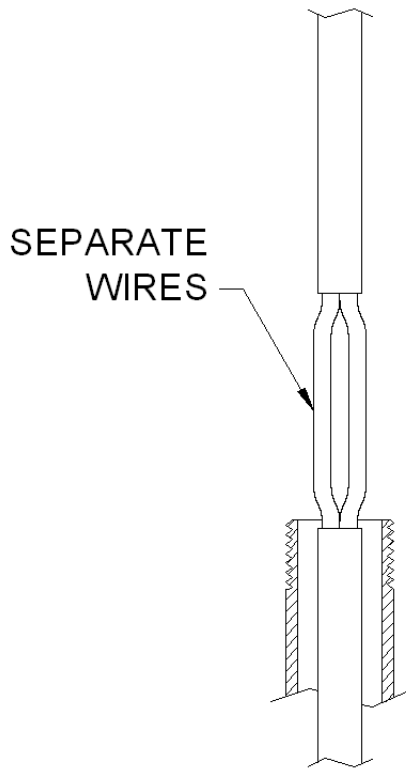

Figure 7
4. Separate the high voltage wires as shown in Figure 7.
6. Install the packing fiber generally following the “Y” sealing fitting manufactures; instructions while maintaining the high voltage wire separation. Refer to Figures 7 and 8.